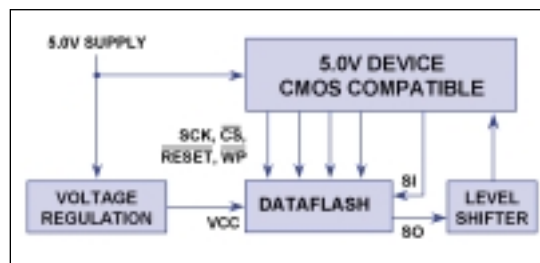

Figure 2: CMOS Compatible Interface Diagram
A problem arises when considering the Output drive levels provided by the Serial Output pin (SO) of a Dataflash when driving into a CMOS compatible interface. A standard 5V compatible CMOS input requires a  $V_{IH}$  input of 3.15V minimum, greater than the output drive level a Dataflash can provide under worst-case conditions. As the Output of the DataFlash is not capable of driving a 5V CMOS load directly a level shifter or alternative method of translating the DataFlash output logic levels to those compatible with the input device is required. Figure 2. Illustrates the requirement for a level shifter in the Serial Data Output signal of the Dataflash when driving a 5V compatible CMOS input.